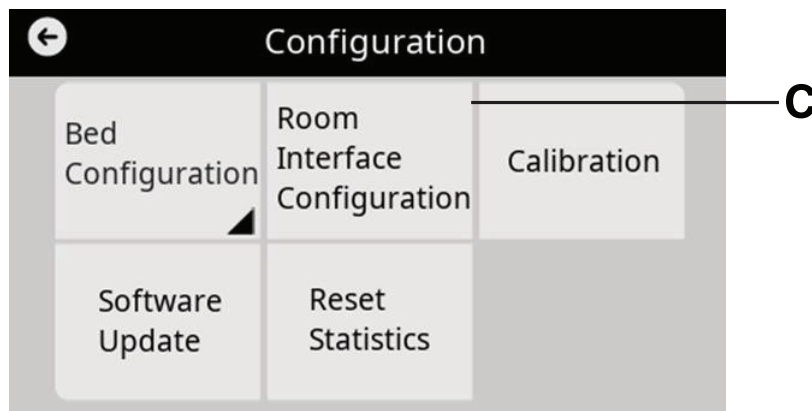

Figure 6 – ProCuity configuration menu
4. In the configuration menu, select **Room Interface Configuration** (C) (Figure 6).